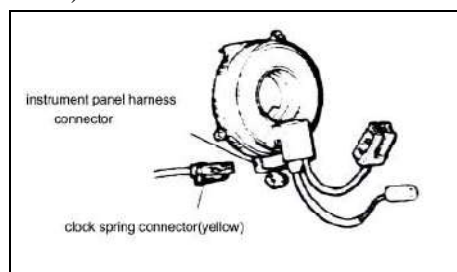

Fig 19-35
①Remove the steering column cover ,lower.
- ② Disconnect the clock spring 2-pin connector and instrument panel wiring harness connector (2-pin, yellow)(See fig 19-35)